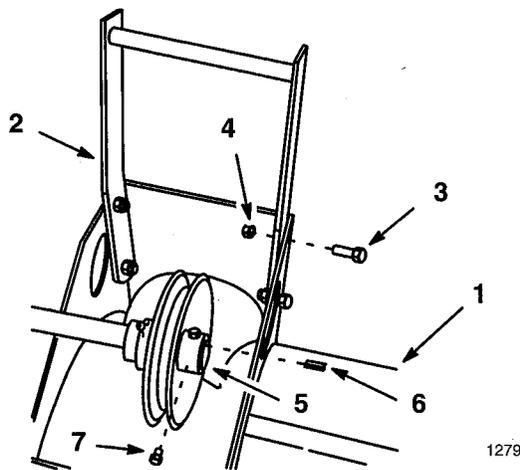

Figure 1
1. Tip housing onto front and insert frame into snowthrower with angle bend up (Fig. 1). Fasten frame with (4) 3/8 x 1" bolts (heads to the outside) and (4) 3/8" lock nuts.
2. Install pulley so hub is flush with end of drive shaft (Fig. 1) and secure with square key and square head set screw.